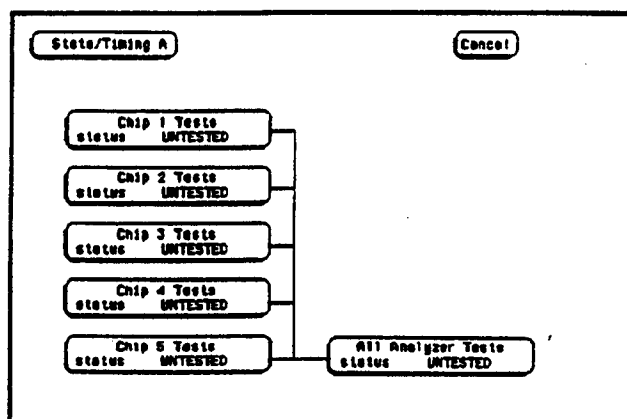

Figure 6-5. Main Test Menu
- e. Figure 6-5 is the main self test menu. Self tests can be run individually by touching a specific test field, or all tests automatically one time by touching "All Analyzer Tests." When "All Analyzer Tests" is run, the test status will change to "TESTED." When individual tests are run, the status will change to either "PASSED or FAILED."